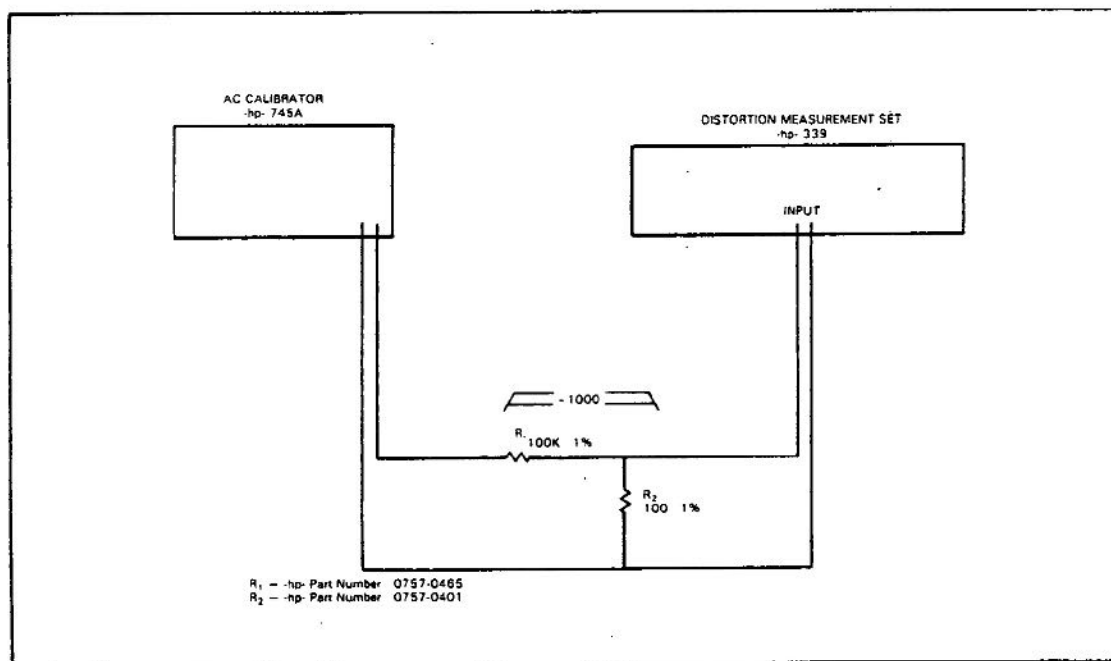

Figure 4-1a. Full-Scale Accuracy and Frequency Response Test
b. Set-up the test equipment as shown in Figure 4-1a.